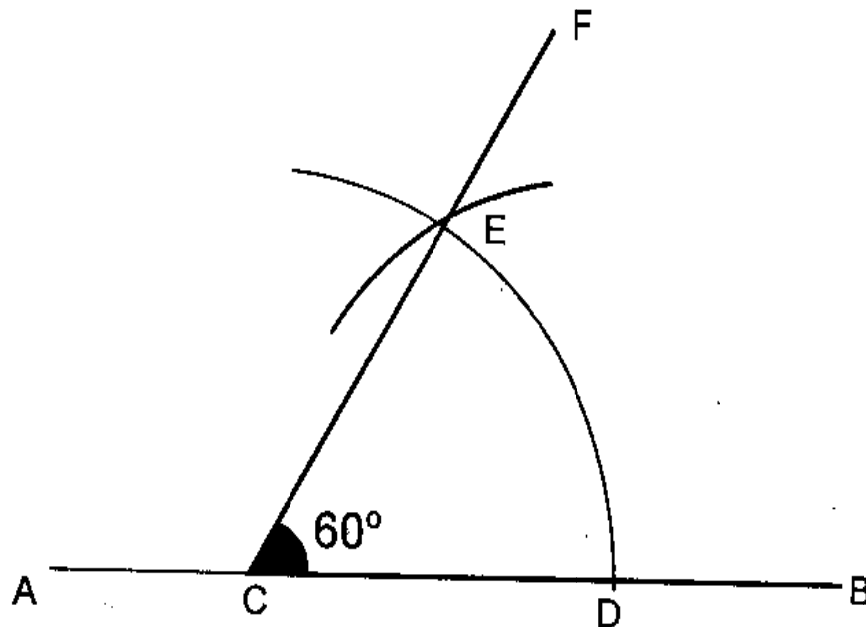

Fig4.1
- i. Construct an angle of 60° , as in Fig 4.1